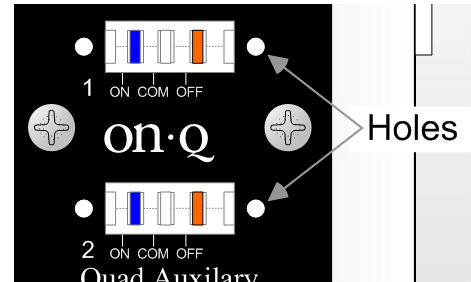

Figure 2
Step 2: Label the Quad Auxiliary Switch buttons. Remove the clear lenses by inserting a small tool, such as a paper clip, into the holes in the circuit board on the back of the switch. Refer to Figure 2. After the lenses have been removed, apply any of the provided descriptive labels. Replace the lenses.